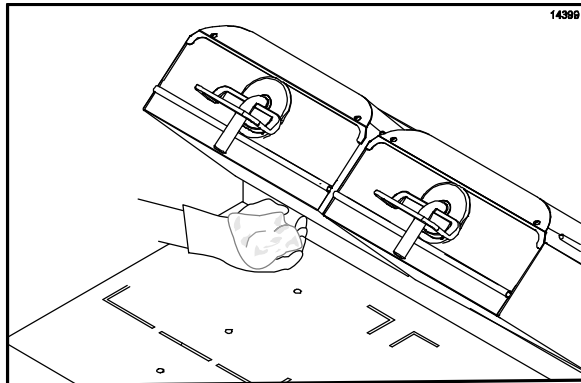

Figure 92
33. Wipe the back of the upper grill platen with a clean, sanitizer-soaked grill cloth. (See Figure 92.)